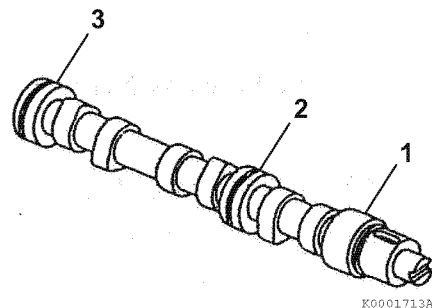

Figure 6-126
4. Measure the diameter of the gear end (Figure 6-126, (1)), intermediate (Figure 6-126, (2)), and flywheel end (Figure 6-126, (3)) bearing journals. See Camshaft on page 6-8 for specifications.